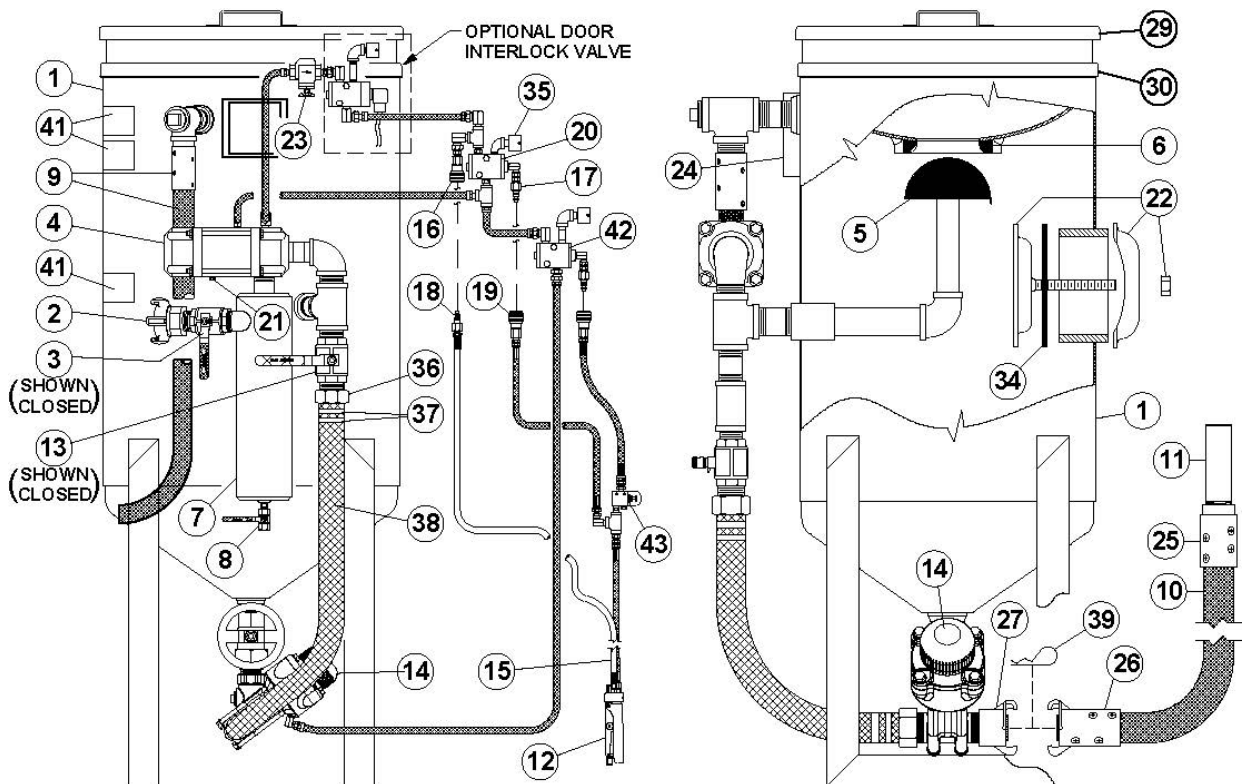

Figure 6.3 – Thompson/Combo Abrasive Blaster with pneumatic blast controls
- 6.3.3. Close the air inlet ball valve (#3) to disable the blaster and the deadman blast control. The ball valve is closed when the handle is fully turned to the position shown in Figure 6.3 (handle perpendicular to body). The handle tab will bottom against the ball valve body in the closed position.